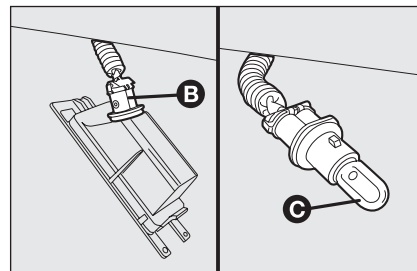

fig. 35
- ☐ turn the bulb holder **B**-fig. 35 clockwise and take the bulb **C** out.